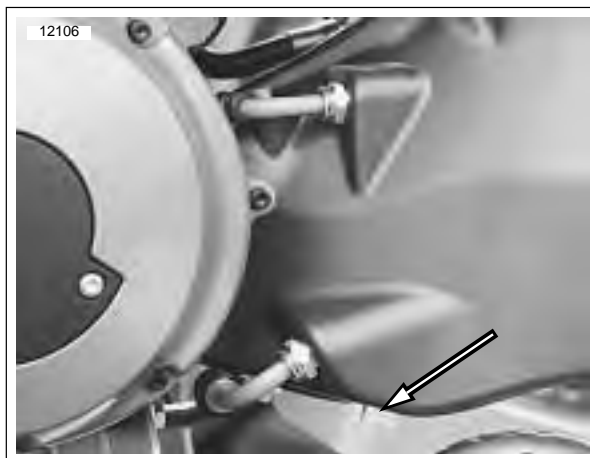

Figure 1-5. Oil Tank Drain Plug
2. See Figure 1-5. Place a container under the drain plug on the bottom left side of the oil tank/swingarm.